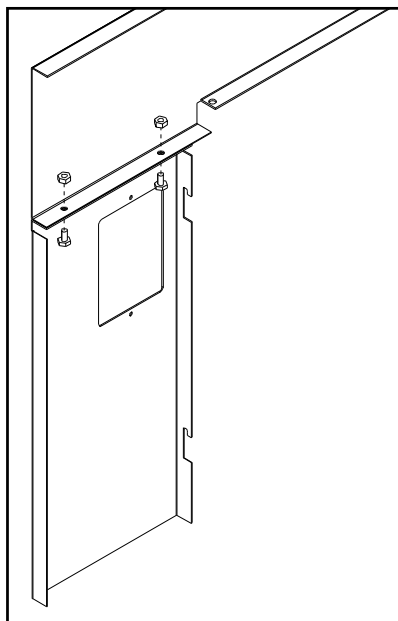

Figure 27: Assembling the Surround Panel, back view.
1. To assemble the surround panels, lay the panels face down on a soft flat surface and align the outer edges of the sides with the top panel. Bolt the sides to the top using two (2) $\frac{1}{4}$ " nuts and bolts on each side (refer to Figure 27).